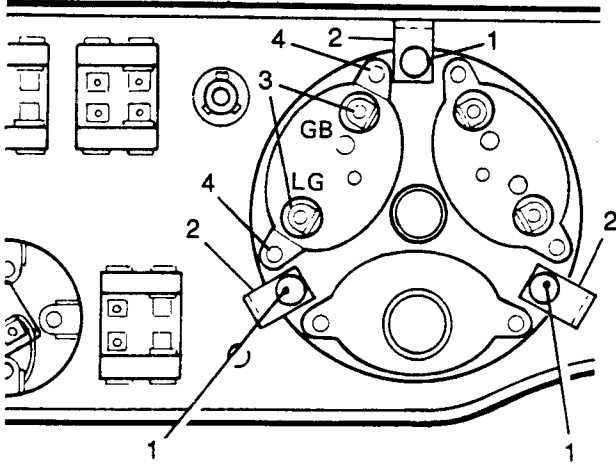

Fig O5.25
- (2) Refer to Fig O5.25. Remove the three knurled nuts (1) at the grouped instruments clamp brackets (2).
- (3) Withdraw the three earth lead eyelets and shakeproof washers.
- (4) Withdraw the grouped instrument clear of the instrument panel.
(5) Disconnect the 'Lucar' connectors (3).
(6) Remove the fixing screws (4) and withdraw the gauge.